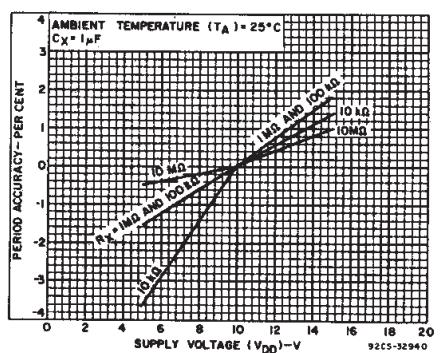

Fig. 11—Typical astable oscillator or  $Q, \bar{Q}$  period accuracy vs. supply voltage.
**B. Variations Due to  $V_{DD}$  and Temperature Changes** — In addition to variations from unit to unit, the astable period varies with  $V_{DD}$  and temperature. Typical variations are presented in graphical form in Figs. 11 to 18 with 10 V as reference for voltage variations curves and 25°C as reference for temperature variations curves.